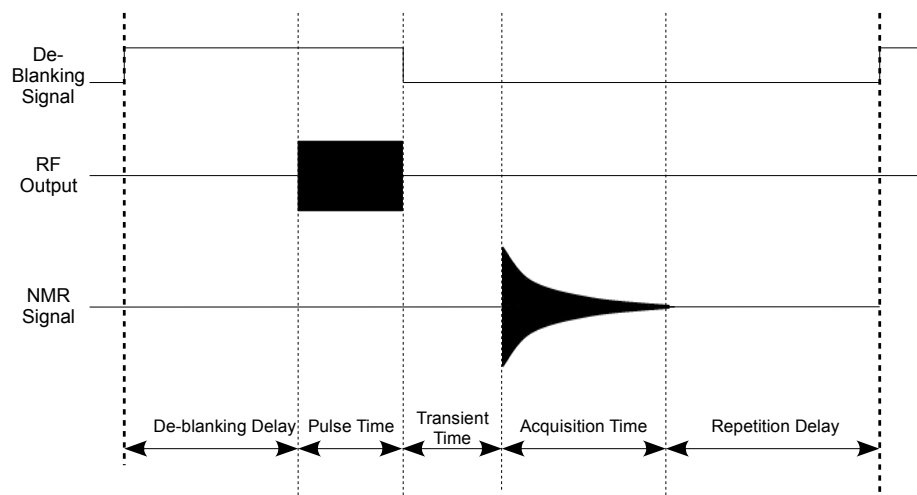

Figure 14: Timing diagram for one single pulse NMR scan (not drawn to scale).
5. Edit the singlepulse\_nmr\_example.bat batch file by right-clicking and selecting 'edit' and save the batch file when finished. The timing values in the batch file correspond to those in figure 14, below.